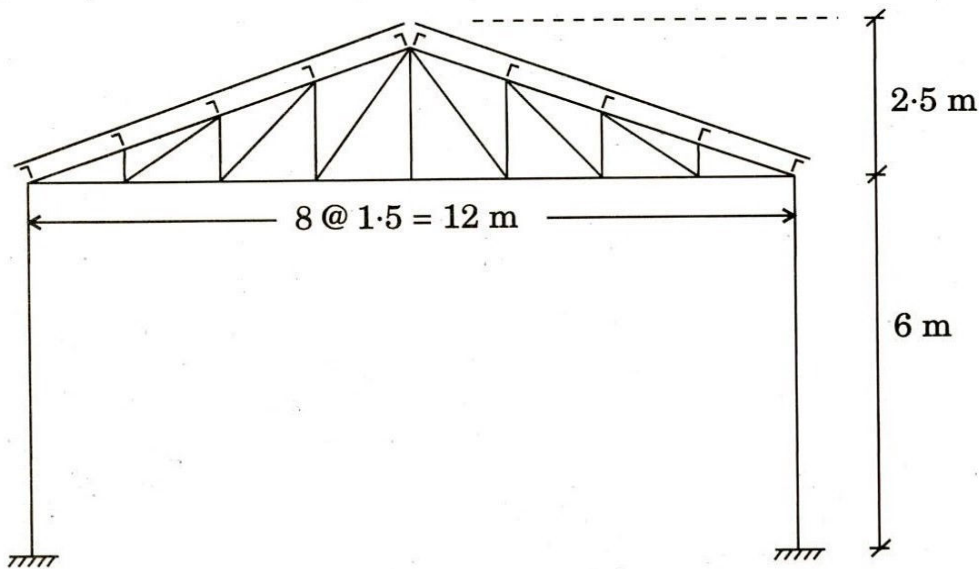

Figure 13
- (b) A factory shed is to be constructed using truss having a span of 12 m. The spacing of the truss is 4 m. Galvanised iron sheets are to be placed over purlins located at the nodes as shown in Figure 13. Determine the design load at the nodes due to live load and wind load for an intermediate truss. Assume design wind pressure =  $1500 \text{ N/m}^2$ .  $C_{pe} = -0.7$  (for wind angle  $90^\circ$ ),  $C_{pi} = \pm 0.2$ . Loads are to be shown in the diagram separately. 20